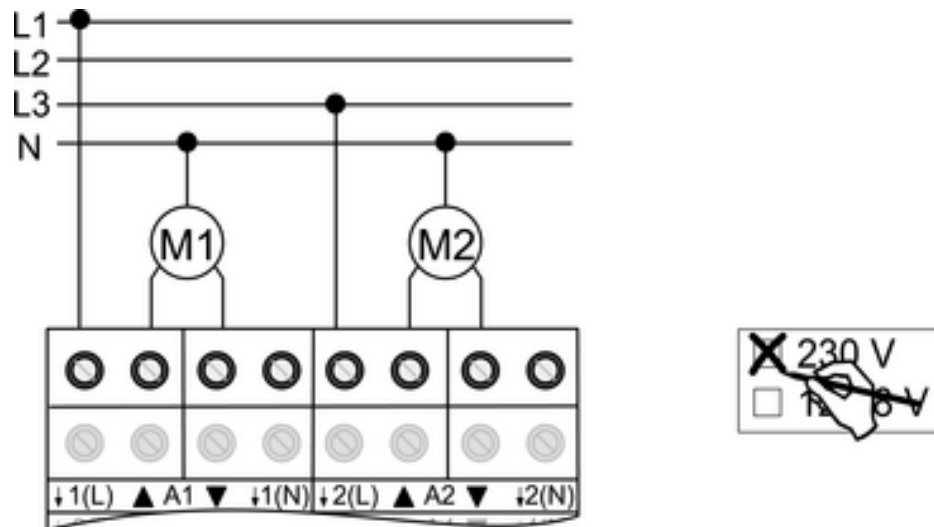

Figure 4
- Connecting the motors (Figure 4).
- Mark **230 V** use on label (Figure 4).
- i** The N conductor connections (14) serve only to detect the operation time and do not provide any N potential.